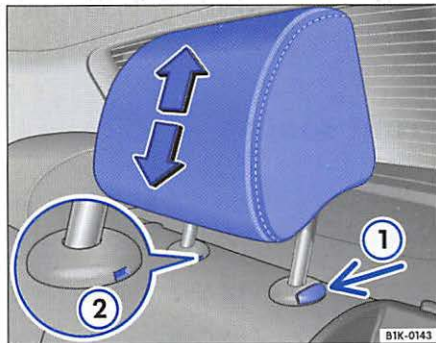

Fig. 40 Adjusting and removing the rear head restraints
- Press and hold button ⇒ fig. 40 ①.
- At the same time, press the screwdriver from the vehicle tool kit into slot ⇒ fig. 40 ②. Be careful not to damage the plastic parts with the screwdriver. A second person can now pull out the head restraint.